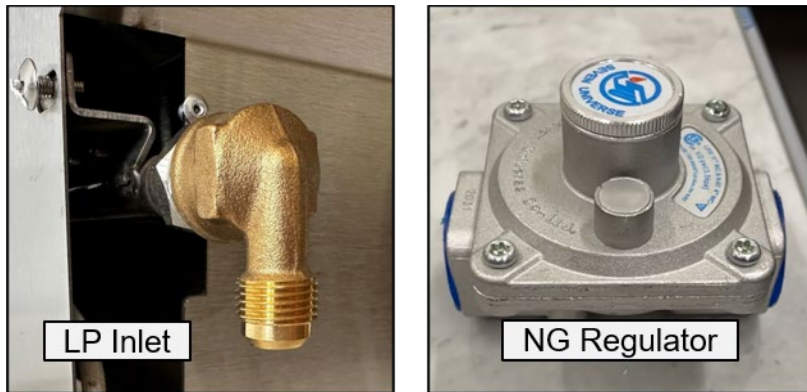

Figure 26 Gas Inlets
- LP gas inlet – 90° angled brass fitting (Figure 26 left), 1/2” opening on one side, 3/8” on the other
- NG gas inlet – remove the LP inlet and connect the supplied NG regulator (Figure 26 right); use flex line to connect the regulator to the gas pipe